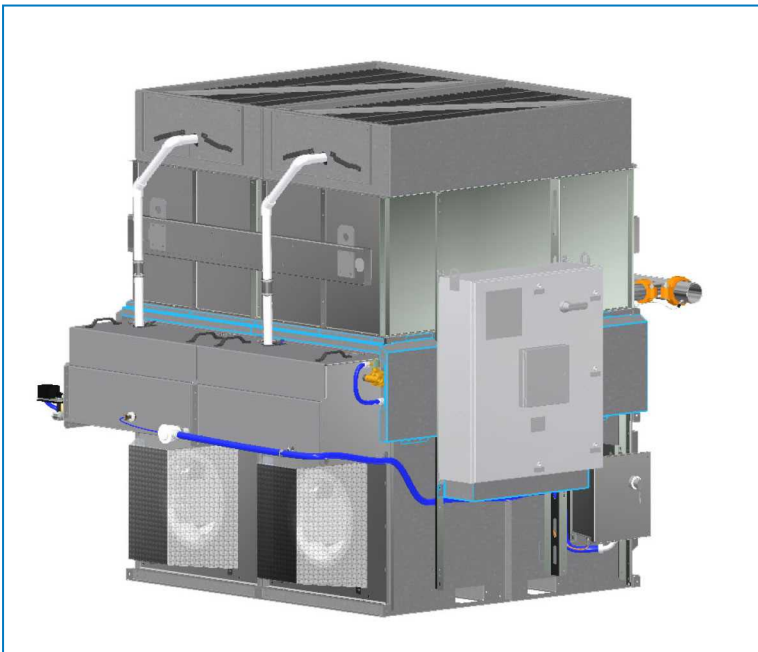
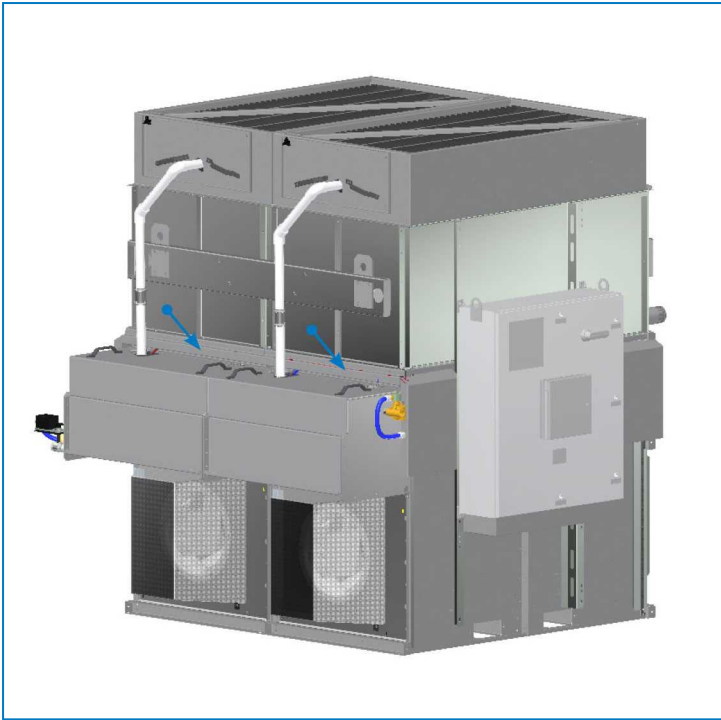

Fig. 14 Location of cover panels around the iPilot™ Control System panel (optional basin heater shown)
Fig. 19 Install wire cover
1. Remove the rest of cover panels around control panel and above spray water basin. Keep the hardware for reinstallation of panels. See figure 14.
10. Install the wire cover panel at the top of the spray water basin. See figure 19. Install the cover panel at the back and side. See figure 11 and 12. Finally install the cover panels around the iPilot™ Control System panel, see figure 14.